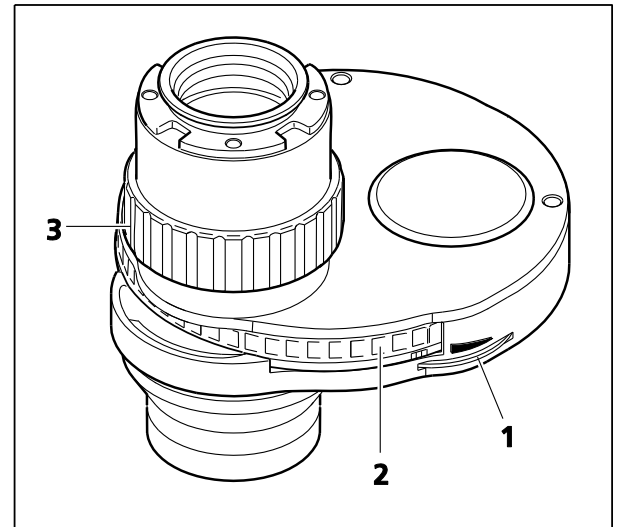

Fig. 2-16 LD Condenser 0.55 for H Ph PlasDIC DIC
- Condenser with an adjustable aperture diaphragm (Fig. 2-16/1) for the bright field position (position 1 of the modulator disk; the aperture diaphragm is completely open for all the other positions of the modulator disk)
- Five-position modulator disk (Fig. 2-16/2) and height adjustment to focus / adapt illumination (Fig. 2-16/3); height adjustment lift: approx. 9 mm